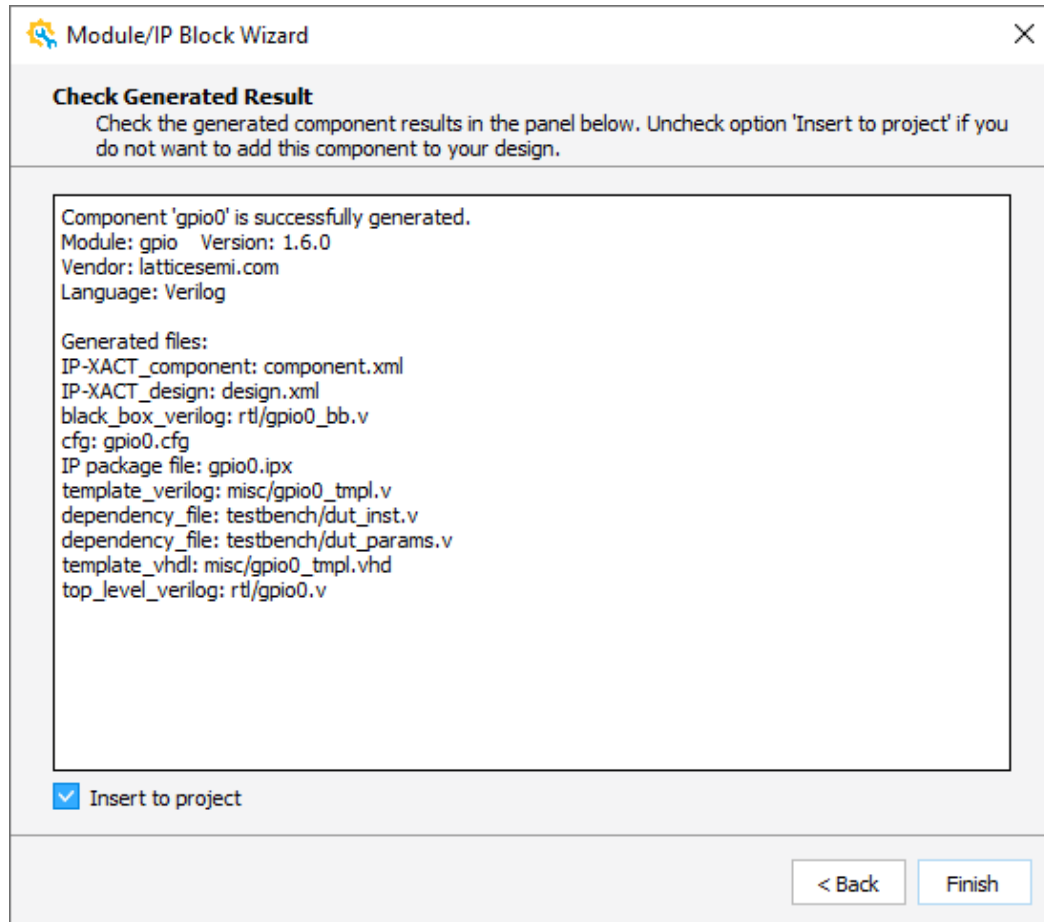

Figure 2.45. Module/IP Block Wizard – Check Generated Result
5. Click **Generate**. Module/IP Block wizard shows the Check Generated Result page (Figure 2.45).
6. Select **Insert to project** (Figure 2.45) at the bottom of the Check Generate Result wizard, so that a **Define Instance** dialog box pops up as shown in next step. Or, this dialog box does not appear.
7. After selecting **Insert to project**, click **Finish** (Figure 2.45). The **Define Instance** dialog box opens (Figure 2.46).